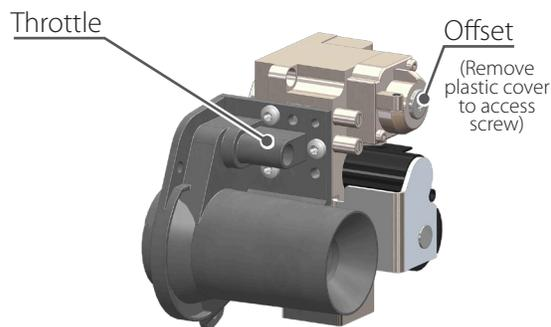

Fig. 11 - Throttle and Offset Locations
- If the CO₂ level during high fire (100%) differs by more than 0.4% from the recommended combustion setting (See **Table 3**) adjust the throttle screw (see **Fig. 11**) as follows:
- If the CO₂ combustion level during low fire (1%) differs by more than 0.4% from the recommended combustion setting (See **Table 3**), remove plastic cover from Offset screw (See **Fig. 11**) and adjust as follows: